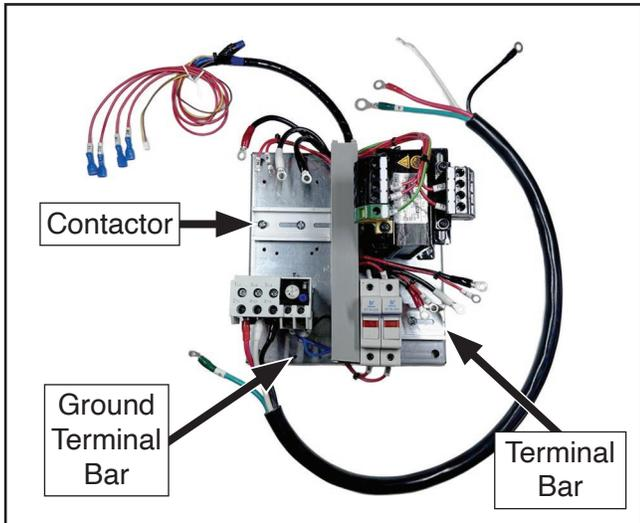

Figure 13. Installation locations on 440V mounting board.
8. Install contactor and terminal bar removed in previous step on DIN rails of 440V mounting board at locations shown in **Figure 13**.
9. Install ground terminal bar on 440V mounting board at location shown in **Figure 13**.